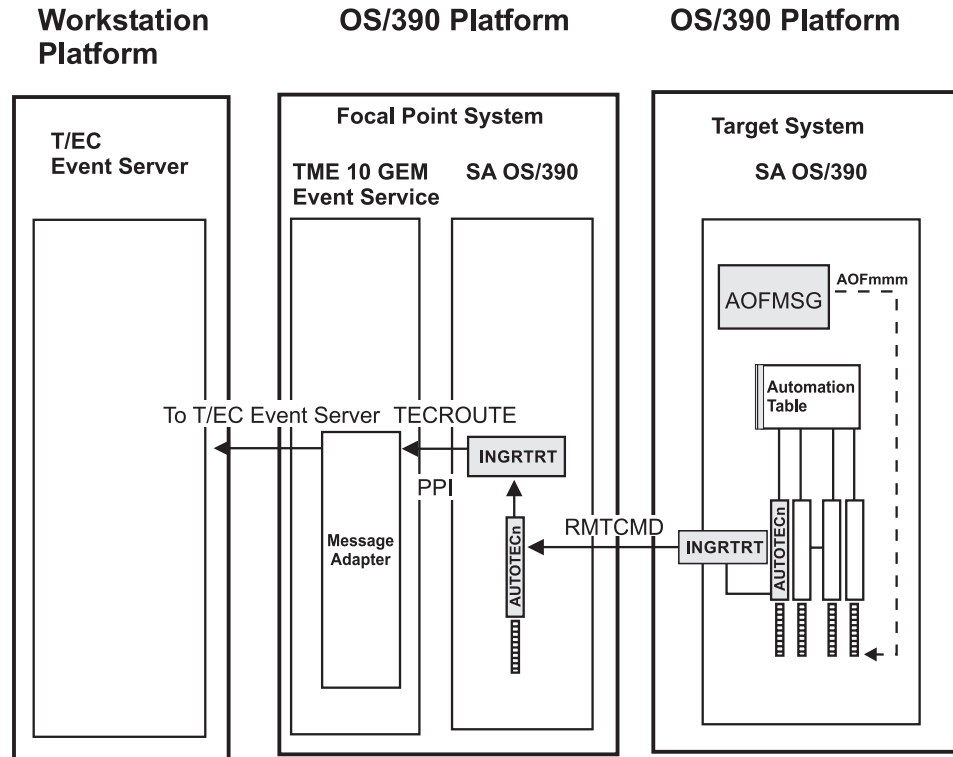

Figure 8. Distributed Configuration: Tivoli GEM Event/Automation Service remote to the SA OS/390 Source of Messages
- distributed configuration:** The message adapter or alert adapter is running on an OS/390 system different from the one on which SA OS/390 is running and issuing messages and alerts. In this scenario, the OS/390 system running the adapters must be the SA OS/390 automation focal point system. Such a configuration for message forwarding is illustrated in Figure 8 on page 37.